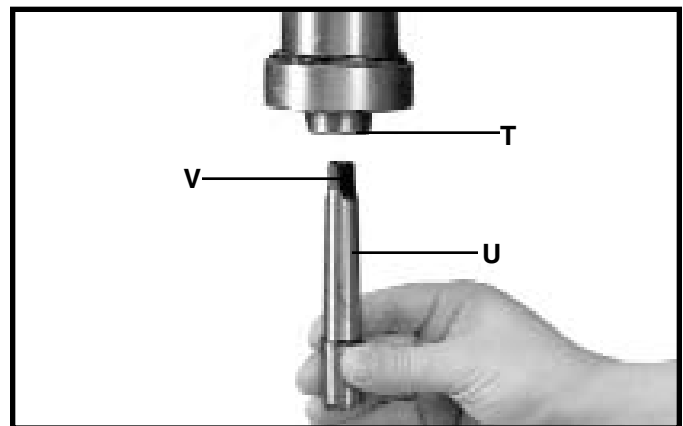

Fig. 8
6. **IMPORTANT:** Make certain the tapered hole in the bottom of spindle (T) Fig. 8, and the taper on spindle adapter (U) are clean and free of any grease, lacquer or rust preventive coatings. **NOTE:** If necessary, household oven cleaner can effectively remove these coatings from the spindle and chuck; however, carefully follow the manufacturer's safety rules regarding its use.
7. Push spindle adapter (U) Fig. 8, up into spindle (T) making certain the tang (V) engages and locks with the mating slot inside spindle (T).